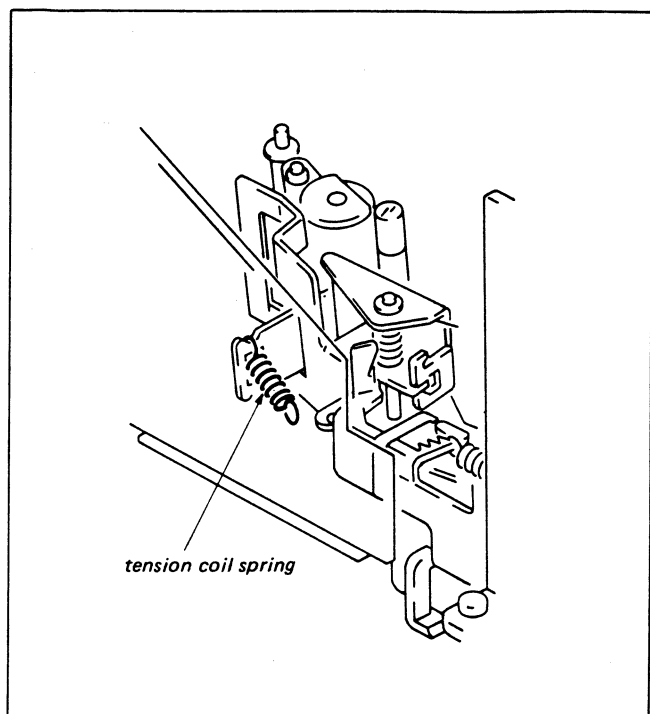

Fig. 3-52.
- 4) Remove the pinch press arm side of the tension coil spring on the pinch press arm assembly (round hook side). (Fig. 3-52)